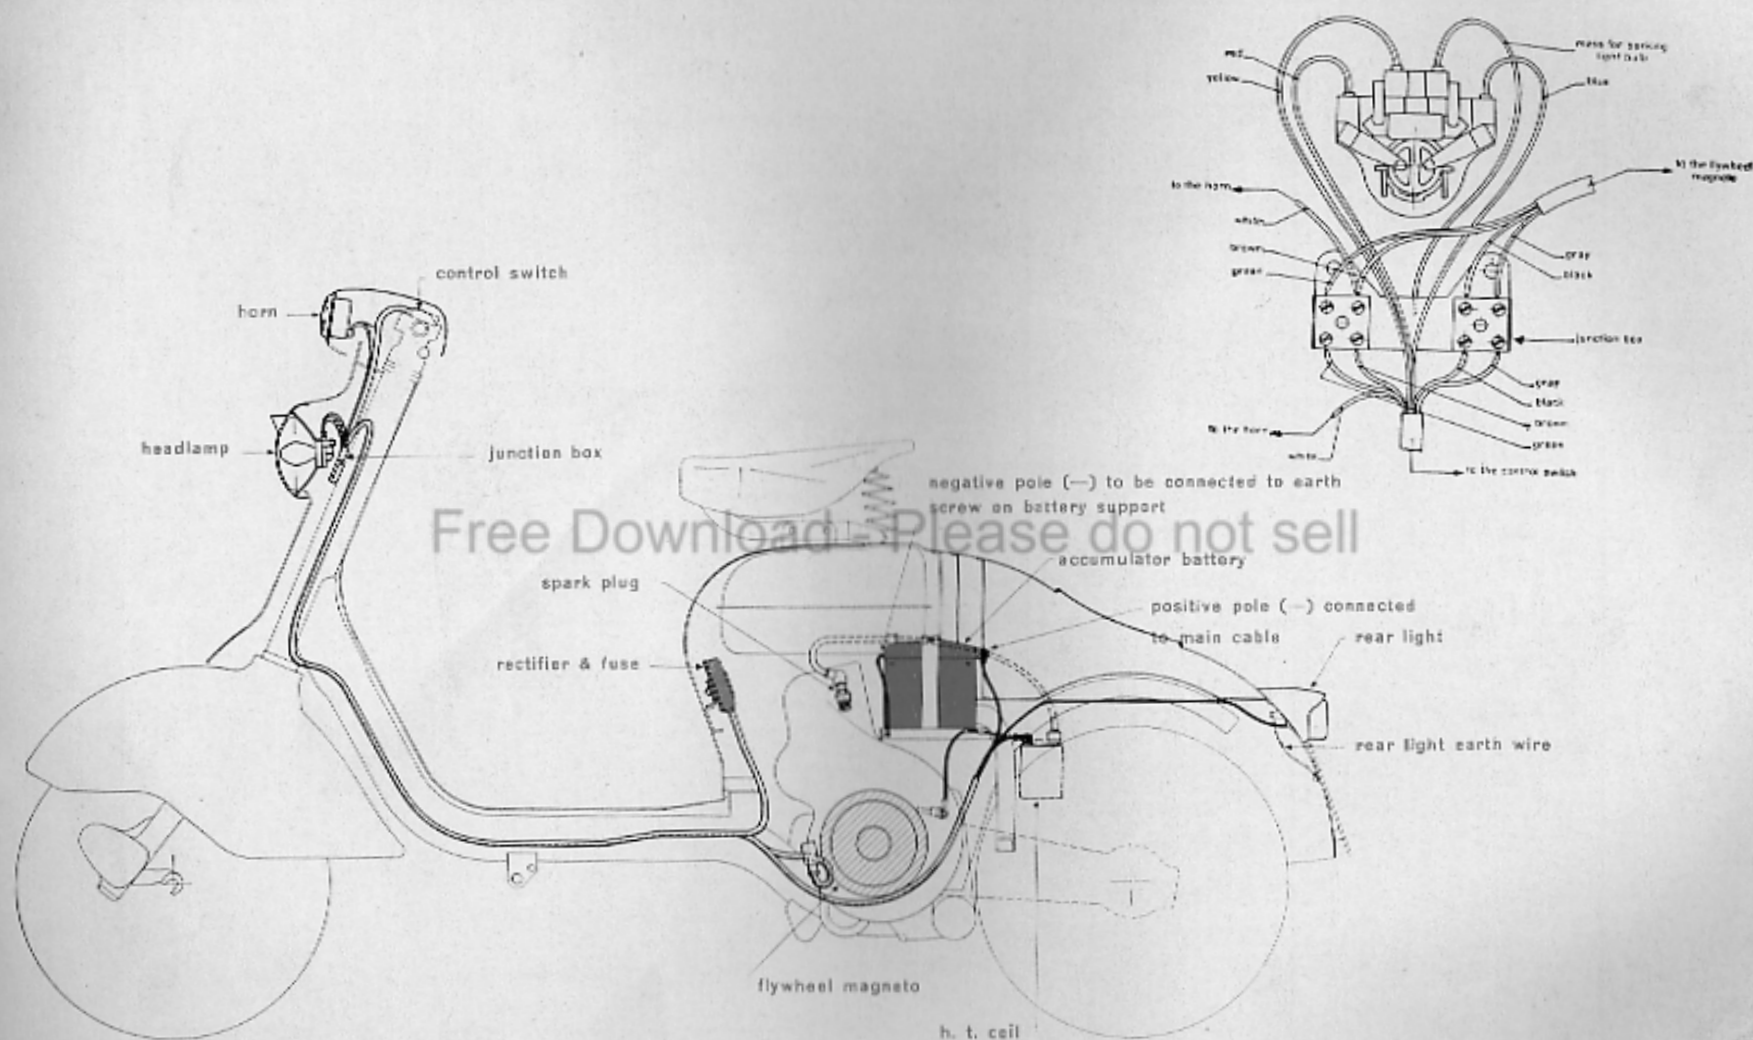

Fig. 5
- 5 - On re-fitting the battery to the machine, care must be taken to connect the correct poles (see layout, fig. 5):